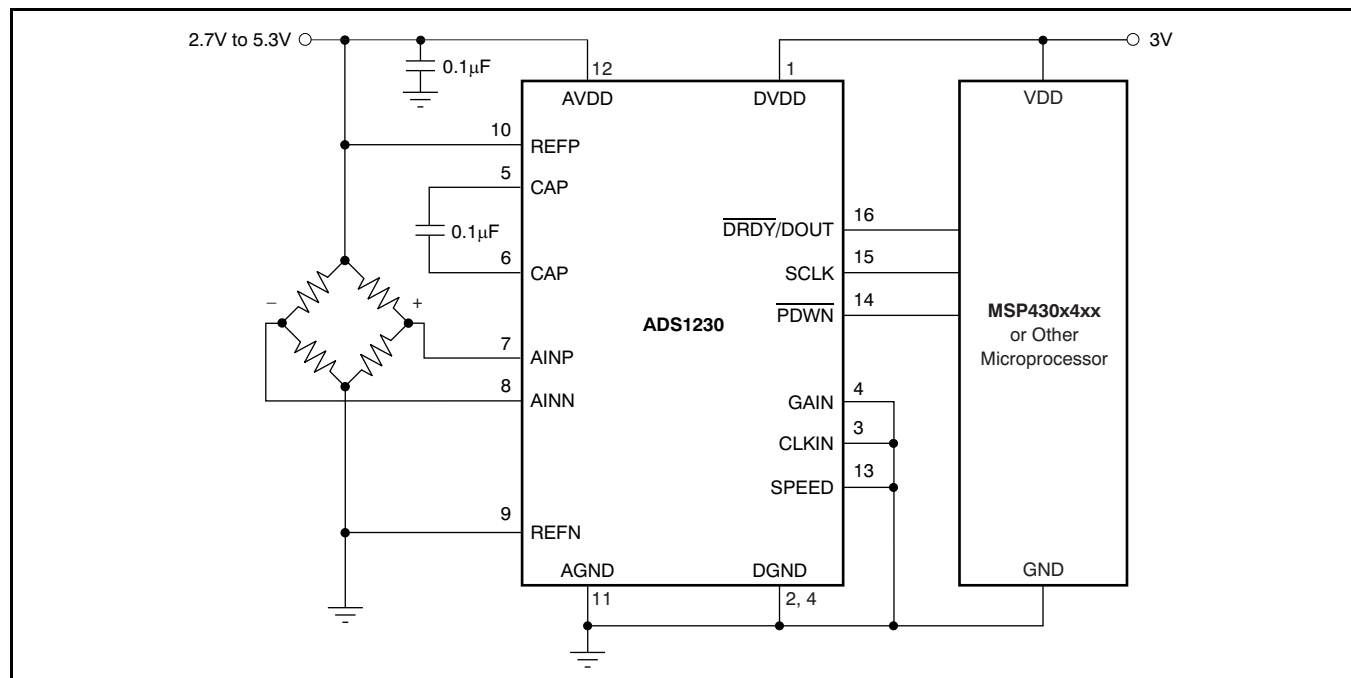

Figure 33. Weigh Scale Application
Figure 33 shows a typical ADS1230 hook-up as part of a weigh scale system. In this setup, the ADS1230 is configured at a 10SPS data rate. Note that the internal oscillator is used by grounding the CLKIN pin. The user can also apply a 4.9152MHz clock to the CLKIN pin. For a typical 2mV/V load cell, the maximum output signal is approximately 10mV for a single +5V excitation voltage. The ADS1230 can achieve 17.5 noise-free bits at 10SPS when PGA = 128. With the extra software filtering/averaging (typically done by a microprocessor), an extra bit can be expected.
- Changed Figure 33 20